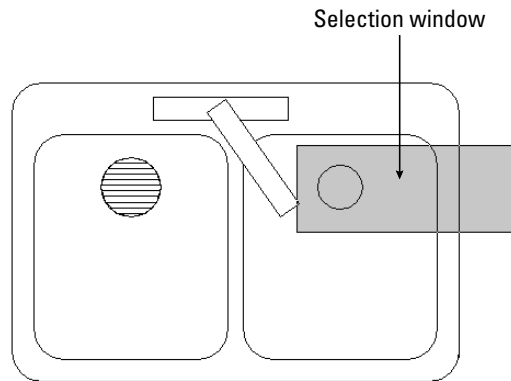
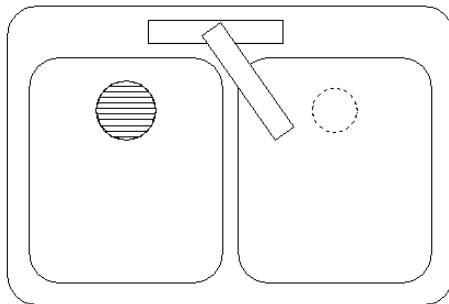

Figure 9-13: Selecting objects with a window. The window selects only objects that lie entirely within the window.
Figure 9-14: The selected object is highlighted.
- ♦ **Window:** The Window option lets you pick two diagonal corners that define a window. All objects entirely within the window are selected. Figure 9-13 shows the process of picking the window. Figure 9-14 shows the result — to indicate that the selected objects are highlighted, they display dashed instead of continuous lines.